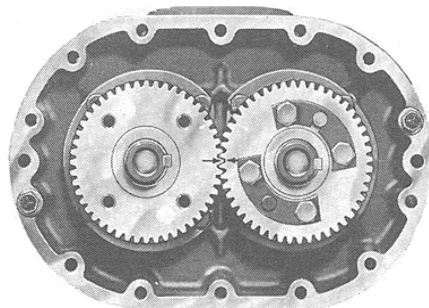
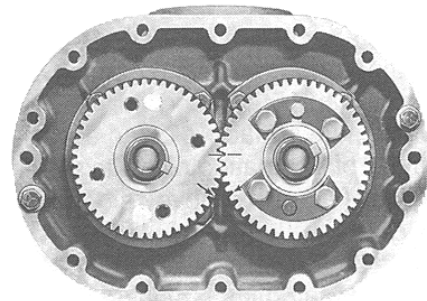

Figure 10A
Figure 10B
- 1) Disconnect cooling water lines (274 & 181). Do not disturb the large hex head screw (97). If it is removed, loosened, or water is detected in drain oil, the coil assembly must be retested as described in the assembly procedure.
- 4) Remove bolts (93) and take off seal housing (91) using jack screws.
- 5) Remove cover (6), mating ring (76) will come off with cover.
- 6) Remove drive shaft screws (66) and locks (65). Tap shaft lightly to remove.
- 7) Remove gear lock nuts and washers (35 & 36). Models KMBD-850C, 1200C, 1600C, 2000C, and 2700C (horizontal flow series, top drive only). Remove cap screws (396), washers (136 & 80), and oil slinger (20) if furnished. These items are not shown on exploded view but are listed on parts list.
- 8) Position the timing gears for pulling by first matching the timing marks on the gears. See Figure 10A. Turn the drive gear clockwise five teeth and mark a matching reference line on each gear as shown in Figure 10B. The rotor lobes are now in their most open position. Using a gear puller, the driven gear (left hand helix) may now be removed without jamming the rotors. This gear is in two parts – the gear rim and hub. It is not necessary to disassemble. Do not allow the gears to move from matched reference line while pulling. Use a light rocking motion while pulling the gear to insure that the lobes have not jammed.
- 8) Insert gear keys (24) in their proper location and flush with top of shaft. Use the two keyways facing to the right. Tight fit required. Coat shafts and keys with lubricant.
- 9) Install drive gear (right hand helix) on drive rotor (left side). To install driven gear, align reference marks as shown in Figure 10B. Install driven gear carefully to avoid mashing any teeth when engaging opposite gear. Secure with gear lockwasher (36) and lock nut (35).